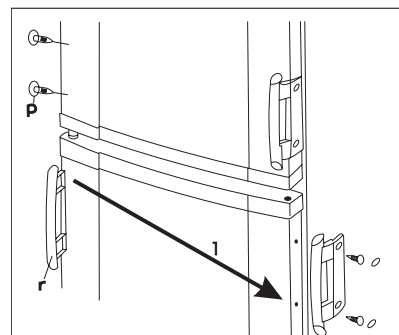

fig. 4.
16. Transfer the handles (r) to the other side and place the plastic blanking pins (p) supplied in the plastic bag of this instruction book into the holes set free. (fig. 4)